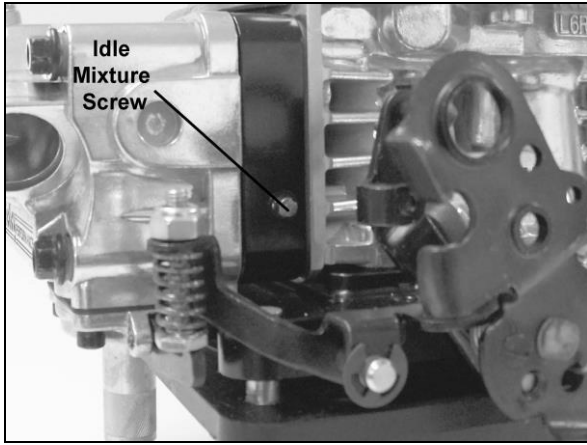

Figure 10
2. The Aluminum Double Pumper™ is a 4 corner idle carburetor which means there are 4 idle mixture screws. Two in the primary metering block and two on the secondary metering block. Adjust each idle mixture screw (**Figures 10 & 11**) 1/8 turn at a time, alternating between all 4 screws. Turn them equally, until you achieve the highest possible vacuum reading without adjusting the curb idle speed screw. Turn screws in to lean the mixture. Turn them out to richen the mixture.